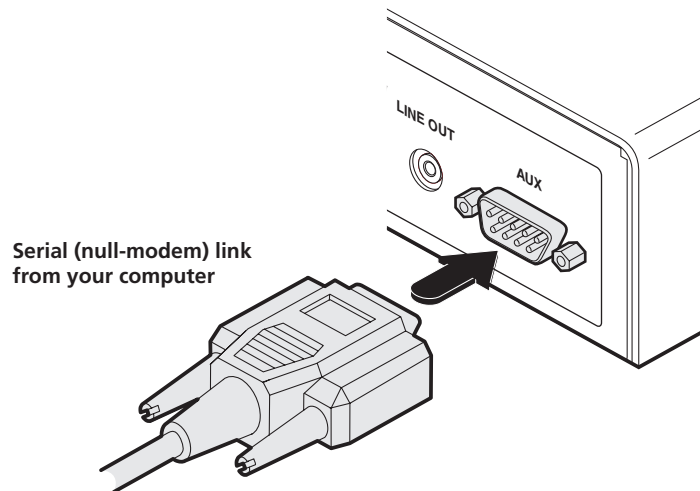

Figure 3-22. Connecting the serial link cable to local transmitter unit socket.
- 2 Connect a suitable serial 'null-modem' cable (see Appendix D for pin-out) between the AUX port on the right hand side of the ServSwitch Agility rear panel and your remote serial device. See Figure 3-22.